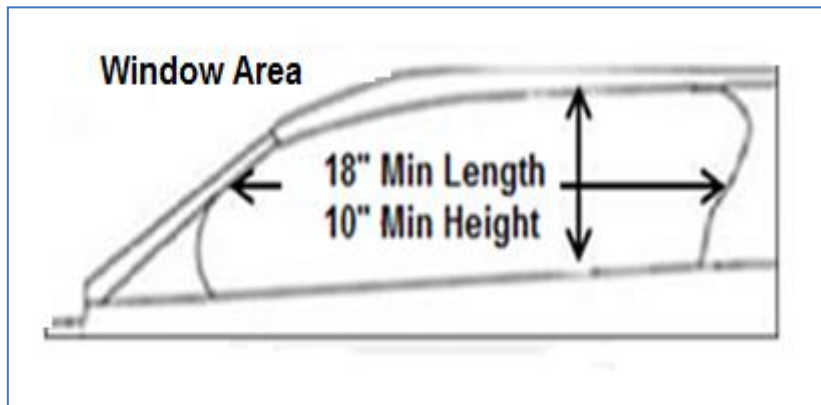

Figure 10
**11.1** There must be a minimum clear opening of 18 inches long by 10 inches high in both the drivers and passenger side windows (No Tolerance). (Figure 10)